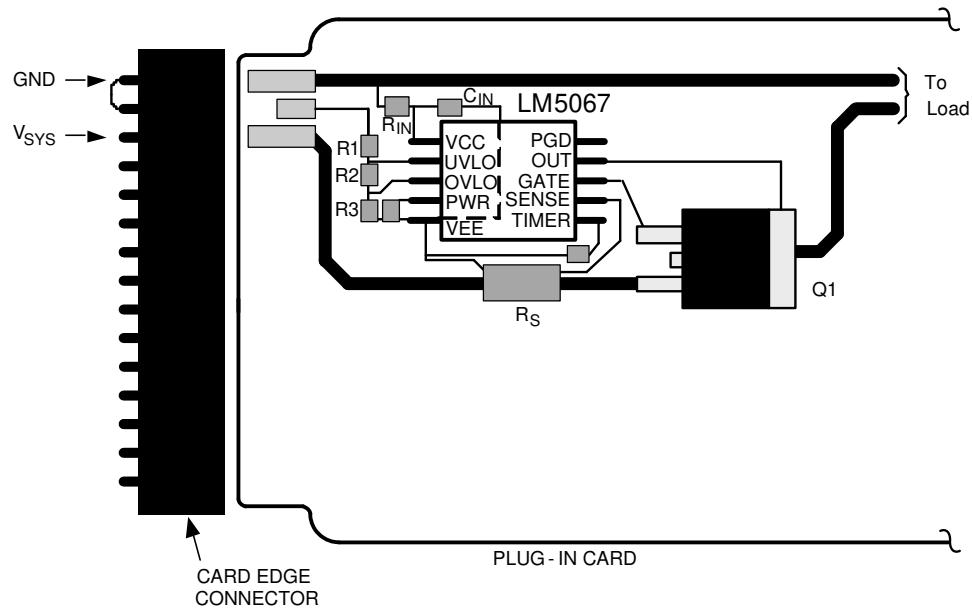

图 11-1. Suggested Board Connector Design
- The board's edge connector can be designed to shut off the LM5067 as the board is removed, before the supply voltage is disconnected from the LM5067. In 图 11-1 the voltage at the UVLO/EN pin goes to VEE before V_{SYS} is removed from the LM5067 due to the shorter edge connector pin. When the board is inserted into the edge connector, the system voltage is applied to the LM5067's VEE and VCC pins before voltage is applied to the UVLO/EN pin.